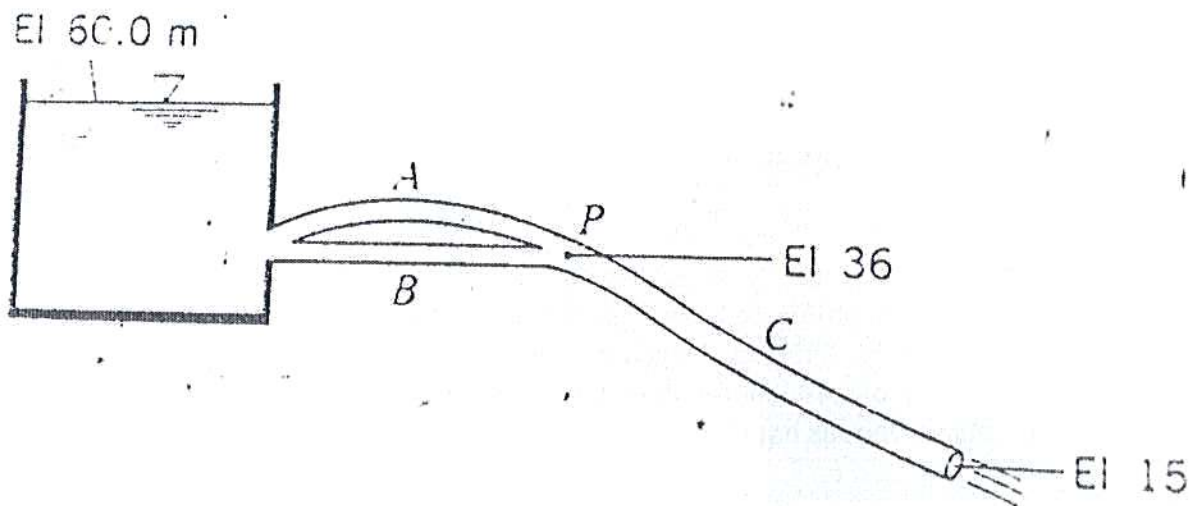

Figure 3
- e) Find the most reasonable flow distribution within the pipe network given in **Figure 3**. Assume convenient n values for simple analysis. 10